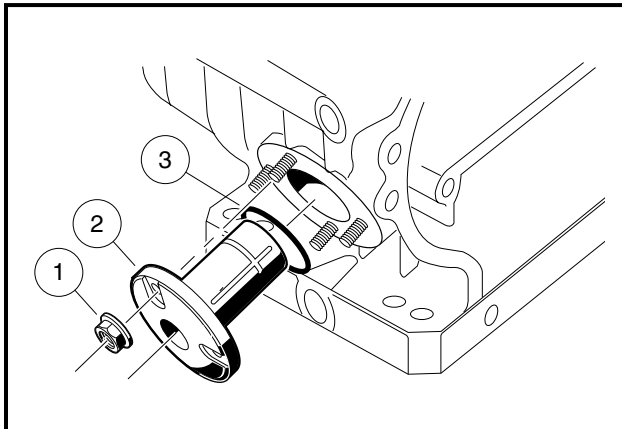

Figure 18-65 Counterbalance Guide Shaft and O-Ring
1. Remove the four nuts (1) and pull out the counterbalance guide shaft (2) and the O-ring (3) (Figure 18-65, Page 18-32).